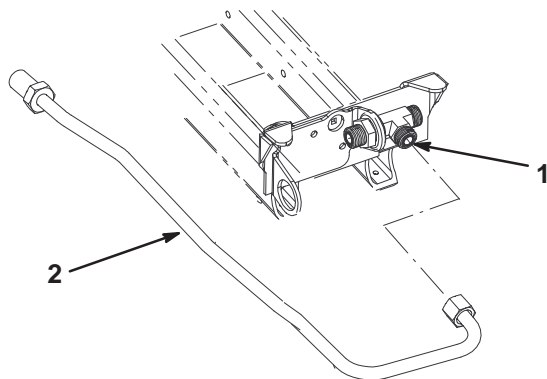

Figure 4
4. Install hydraulic hard line to tee fitting under seat base. Position line as shown in figure 4.